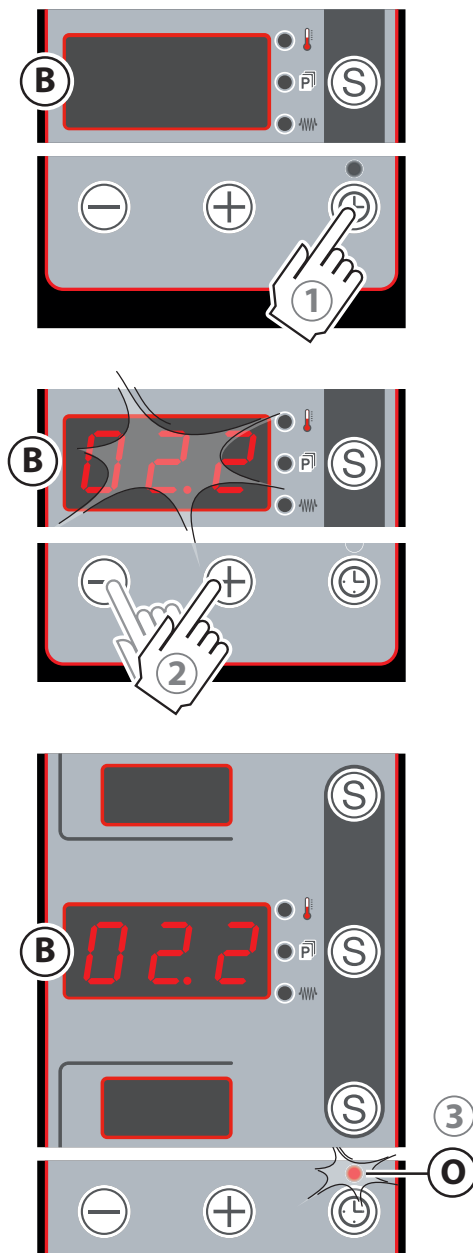

Fig.16.
See ► chap. **"Programmed switch-on"** on page 15 and Fig.16.
► Fig.16.
- 2 while the display is flashing (B), using the "+" or "-" keys, set the desired time (maximum limit 99.5 that is 99 hours and 50 minutes, in the example 02.2 = 2 hours and 20 min.).
- 3 When the display stops flashing, (B) the set value will be stored, the other two displays will switch off and the countdown will start; the LED flashing (O) shows that the function is active.